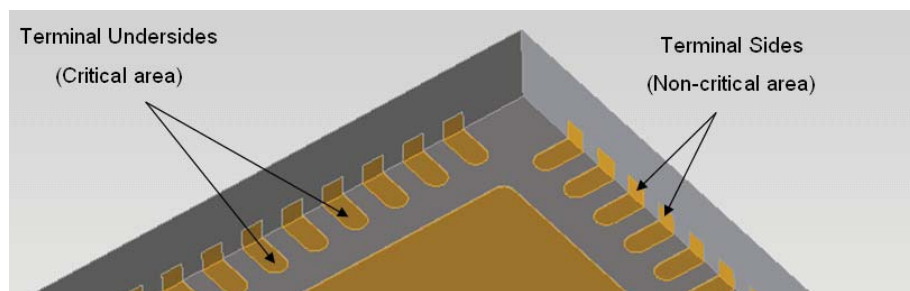

Figure 3d. Bottom view of A350 (QFN package)
**Critical and Non-critical areas of QFN soldering in Figure 3d and 3e**